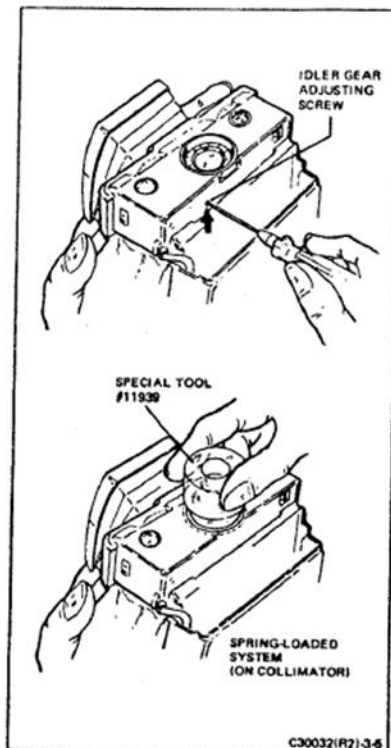

FIGURE 3-5 DISENGAGING THE IDLER GEAR
- (b) Loosen the adjusting screw at the bottom of the shutter housing so the idler gear no longer engages the focus wheel and lens barrel (Figure 3-5).